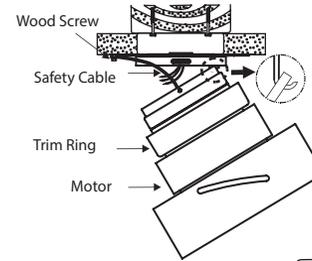

FIGURE 9
Receiver to house supply wires electrical connections: (Fig. 9 & 10)
1. Lift motor assembly and hang it on the hook of mounting bracket using one of the screw holes. (Fig. 9)
2. Secure the safety cable to the building structure using a wood screw (not included). (Fig. 9)